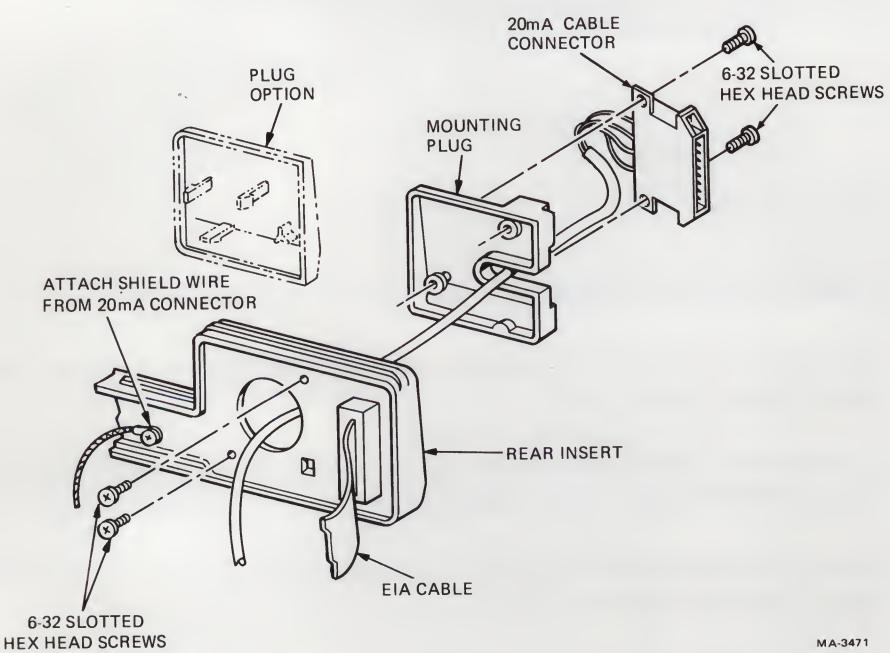

Figure 8-17 Attaching 20 mA Cable Connector to Rear Insert
10. Remove the option plug from the rear insert (Figure 8-17).
11. Insert the 20 mA cable connector through the hole now visible in the rear insert (Figure 8-17).
12. Attach the 20 mA cable connector to the mounting plug with two 6-32 slotted hex-head screws (Figure 8-17).
13. Attach the mounting plug to the rear insert with two 6-32 slotted hex-head screws (Figure 8-17).